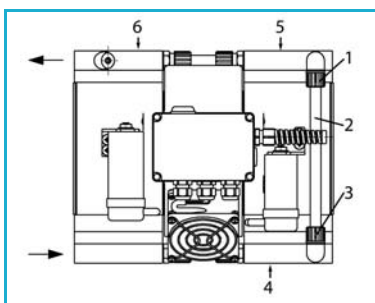
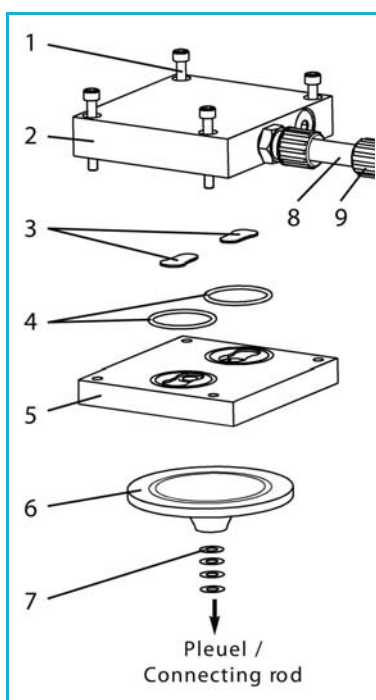

Fig. 12: Pneumatic connection between pump heads 2 and 3 (Example N 940.5 APE)
Fig. 13: Replacing molded diaphragm and valve plates (3. and 4. pump head)
Additional step: At the pneumatic connection between pump heads 2 and 3 (2, fig. 12) use pliers to turn union nuts (1) and (3) counterclockwise, thereby loosening them.
1. At the pneumatic connections (**2**, fig. 12) between the second (**4**) and third (**5**) pump head: Use pliers to loosen union nuts (**1**) and (**3**) by turning them counterclockwise.
2. At the third pump head (**5**, fig. 12) mark the position of head plate (**2**, fig. 13), intermediate plate (**5**) and pump housing relative to each other by a drawing line with a felt-tip pen. This helps to ensure proper assembly.
3. At the third pump head unscrew the four screws (**1**, fig. 13) and remove the head plate (**2**). Intermediate plate (**5**) is visible.
5. Lay the two new O-rings (**4**, fig. 13) in the seats of intermediate plate (**5**).
1. Place the intermediate plate (5) with valve plates (3) and O-rings (4) on the pump housing in accordance with the felt-tip pen marking.
2. Place the head plate (2) on the intermediate plate (5) in accordance with the felt-tip pen marking. In doing so, pull the pneumatic connections (2, fig. 12) onto the two screw fittings in the head plate of the second pump head (4) and the third pump head (5). Do not yet tighten the union nuts (1) and (3).
3. Make sure that the pump housing, intermediate plate (5, fig. 13), and head plate (2) are flush with each other.
4. Tighten the four screws (1) diagonally hand-tight.
5. Use pliers to securely tighten (turn in clockwise direction) the two union nuts (1, fig. 12) and (3) at the pneumatic connection between pump heads 2 and 3.
i Fourth pump head: See position (6) in fig. 12.
Then use pliers to securely tighten (turn in clockwise direction) the union nuts (9, fig. 13) at the two pneumatic connections (8) between pump heads 3 and 4.